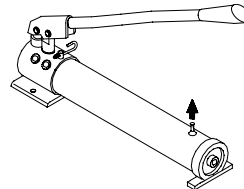

Figure 7 - Pull stem upward before use, press down when moving or storing pump.
- Pull vent plug stem upward before use, press down when moving or storing the pump (Fig. 7).